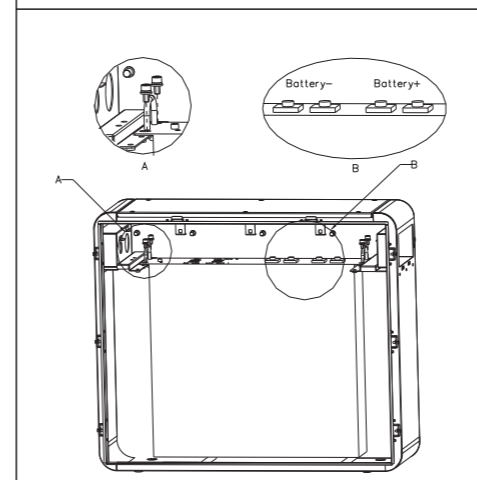
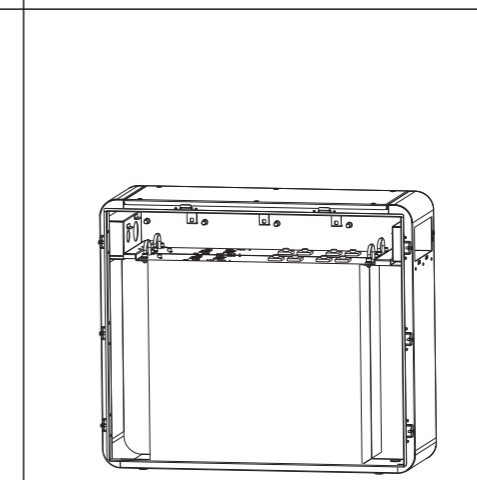

Figure 8. (battery installation and placement)
Figure 9.(position of two groups of batteries after installation)
2. Place the lithium iron phosphate battery as shown in the figure (note the placement direction of the battery: the battery power terminal is on the right side of the chassis), tighten it with 4 M6\*12 hexagonal combination bolts (as shown in Figure 8), and fix the other battery in this way (as shown in Figure 9).